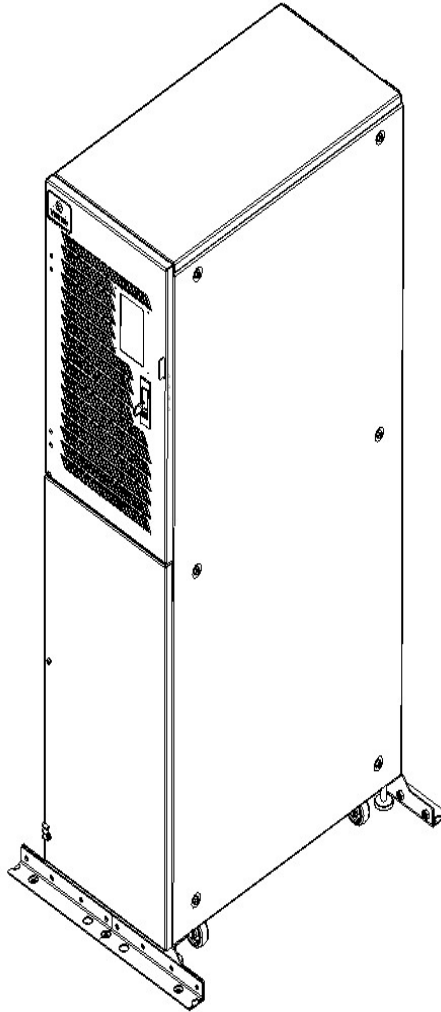

Figure 2-3 Completed installation
3. After moving the cabinet to the installation site, you raise the adjustable feet and use the castors to move the cabinet to its final installation position, finally, rotate the adjustable feet until they are in contact with the floor. See Figure 2-3 for the finished installation.